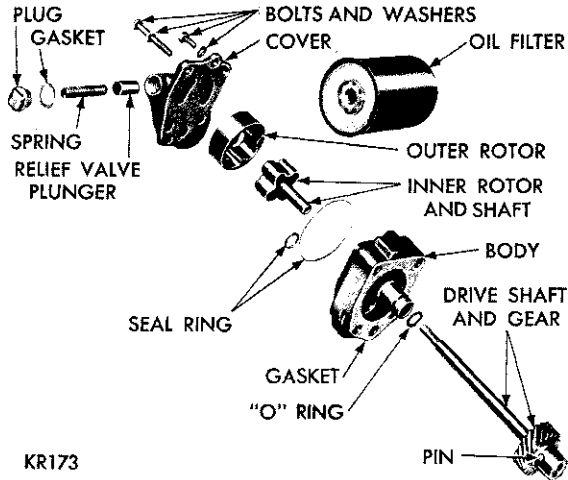

Fig. 57—Oil Pump and Filter Assembly (Disassembled View)
- (1) Remove the filter base and oil seal ring.
- (2) Remove the pump rotor and shaft and lift out the outer pump rotor.
- (3) Remove the oil pressure relief valve plug and lift out the spring and relief valve plunger (Fig. 57).